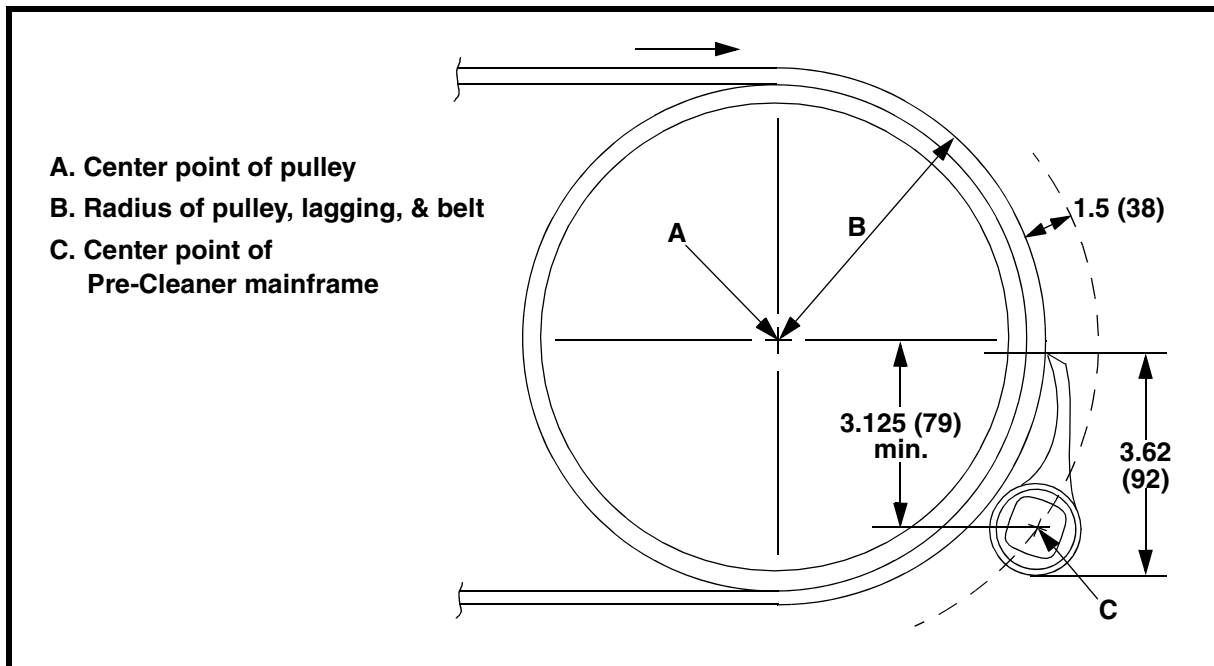
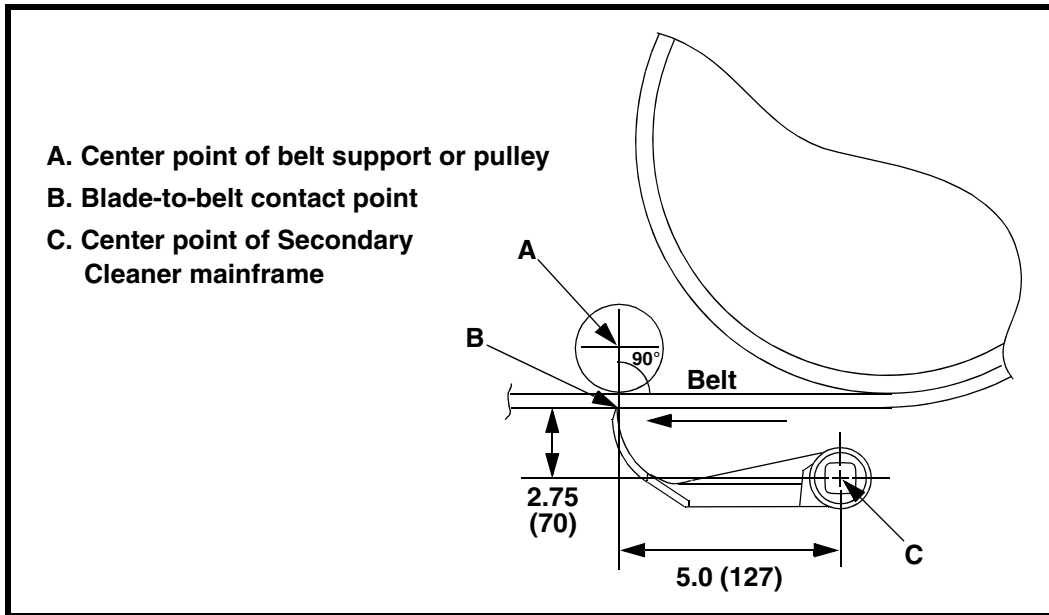
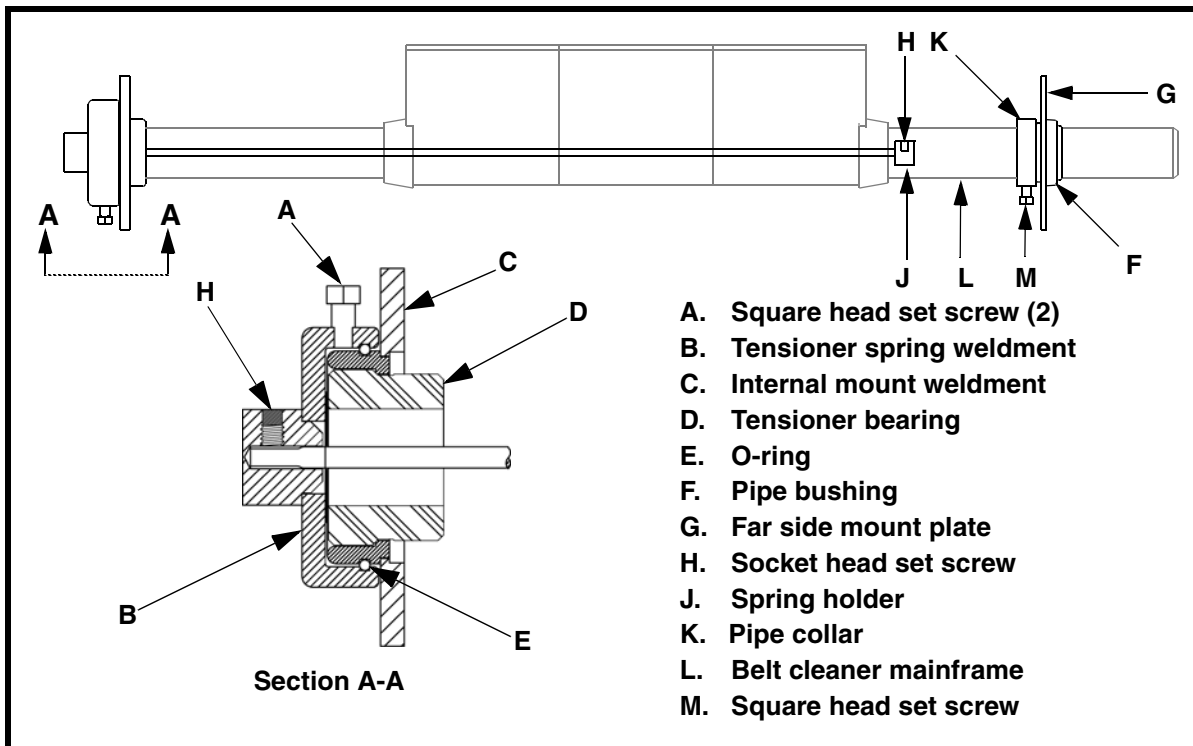

Figure 1. Pre-Cleaner Mainframe Location
Figure 2. Secondary Cleaner Mainframe Location
Figure 3. Internal Spring Tensioner Mounting Plate Installation
1. See Figure 1. On operator side chute wall, mark vertical and horizontal center line of head pulley to find pulley center point (A).
2. Measure radius of head pulley including lagging and belt thickness (B). To this measurement, add $1\text{-}1/2 \pm 1/8$ in. (38 ± 3 mm).
3. Starting from point (A), measure the total distance calculated in step 2 and draw an arc on chute wall.
4. Measure down a minimum of $3\text{-}1/8$ in. (79 mm) from pulley's horizontal center line. Draw a horizontal line parallel to pulley's horizontal center line. Locate center point of Pre-Cleaner mainframe (C) where this horizontal line intersects arc on chute wall.
1. See Figure 2. On operator side chute wall, mark vertical and horizontal center line of pulley or belt support to find center point (A). Make sure vertical center line is perpendicular to belt line.
2. Locate blades where this line crosses bottom (return side) of conveyor belt: blade-to-belt contact point (B). (If belt is not adequately supported, a belt support must be installed. See step 4 under “After Installing Belt Cleaner.”)
3. Starting from point (B), measure vertically and horizontally as shown in Figure 2. Mark center point of Secondary Cleaner mainframe (C) on chute wall.
1. For Internal Spring Tensioner (Figure 3), do the following:
- a. Loosen two square head set screws (A) on tensioner spring weldment (B).
2. Using a screwdriver, pry tensioner spring weldment (B) off internal mount weldment (C). (Tensioner bearing (D) and O-ring (E) should be on internal mount weldment.)
3. For all tensioners, use center points of Pre-Cleaner (C, Figure 1) and Secondary Cleaner (C, Figure 2) mainframes to mark location of holes for mounting plates. Use tensioner mounting plates as templates.
- (6) For Internal Spring Tensioner (Figure 3), install tensioner bearing (D) and O-ring (E) onto internal mount weldment (C).